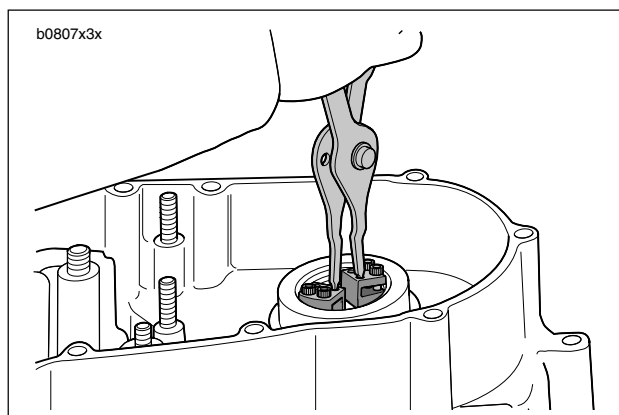

**Figure 3-80. Sprocket Shaft Outer Race Removal**
13. See Figure 3-80. Use CRANKSHAFT BEARING TOOL (Part No. HD-94547-101) to remove sprocket shaft outer races.